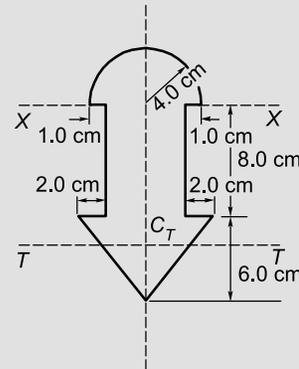

Figure 8.18
**Problem 15.** Determine correct to 3 significant figures, the second moment of area about axis  $XX$  for the composite area shown in Figure 8.18.